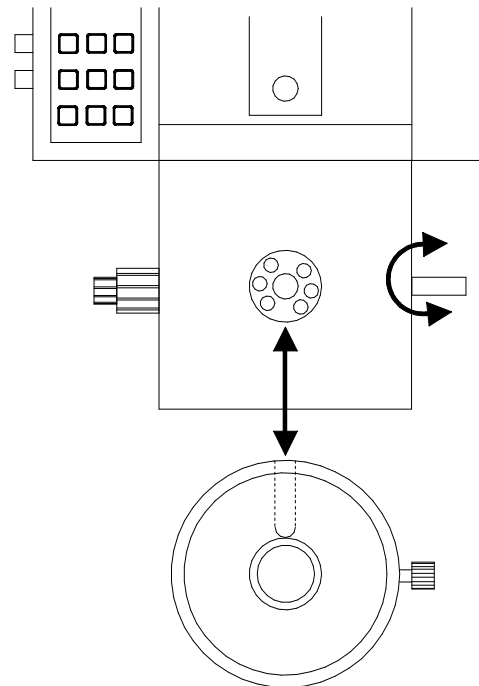

Fig. 4
The groove is then in its correct position for pushing it onto the orientation if the eccentric bolt of the buffer tray shows to the right side. When removing the buffer tray from the microtome, the eccentric bolt must also be placed on the right side directly above the clamping lever of the specimen orientation (fig. 4).
- Pull off the grip of the eccentric bolt of the buffer tray (fig. 4).
To be able to insert these specimen clamps into the specimen orientation of the base plate (fig. 4), the following work steps must be carried out first: